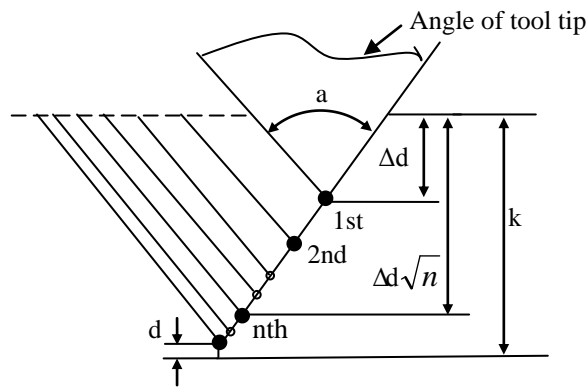

Figure 9.29 The depth of cutting
- U(d) The finishing allowance (radius) (Figure 9.29).
- V(Δd_{min}) The minimum cutting depth (radius). The cutting depth is Δd_{min} when the cutting depth ($\Delta d\sqrt{n} - \Delta d\sqrt{n-1}$) is less than Δd_{min} (Figure 9.29).
- F(L) Thread lead (same as G32)